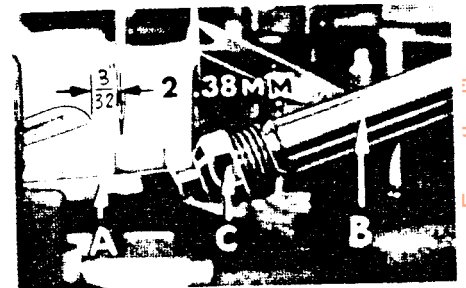
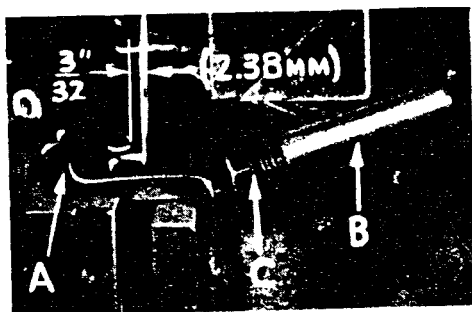

Fig. 6
Fig. 6A
At this point, insert lower looper (A, Fig. 6) on 695B012, 030 and 051 or lower spreader (A, Fig. 6A) on 695B030
into bar (B). With lower looper or spreader at left end of its stroke, set looper or spreader point $3/32$ inch (2.38 mm) from centerline of needle (Fig. 6 or 6A) using looper gauge No. 21225-3/32. Do not have lower looper or spreader deflecting needle. Tighten nut (C). Now assemble differential (front) feed dog.